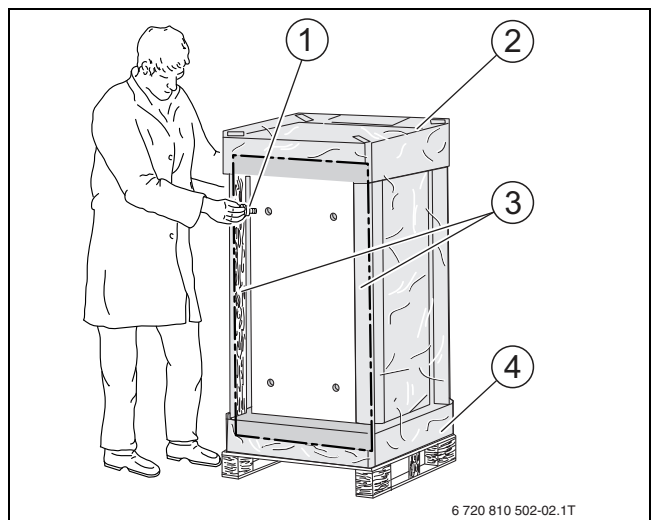

Fig. 7 Cutting the packaging film and inserting the adjustable feet
- ▶ Cut the packaging film on the side opposite the "Tank top" sticker (→ Fig. 7).